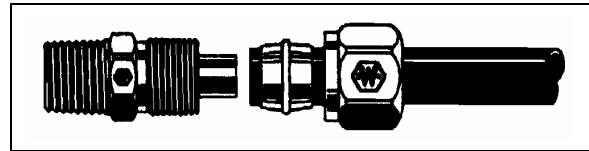

FIGURE 52: HOSE FITTING
**NTA-Type Plastic Tubing:** Hand tighten nut (Fig. 52). From that point, tighten using a wrench the number of turns indicated in the following chart.